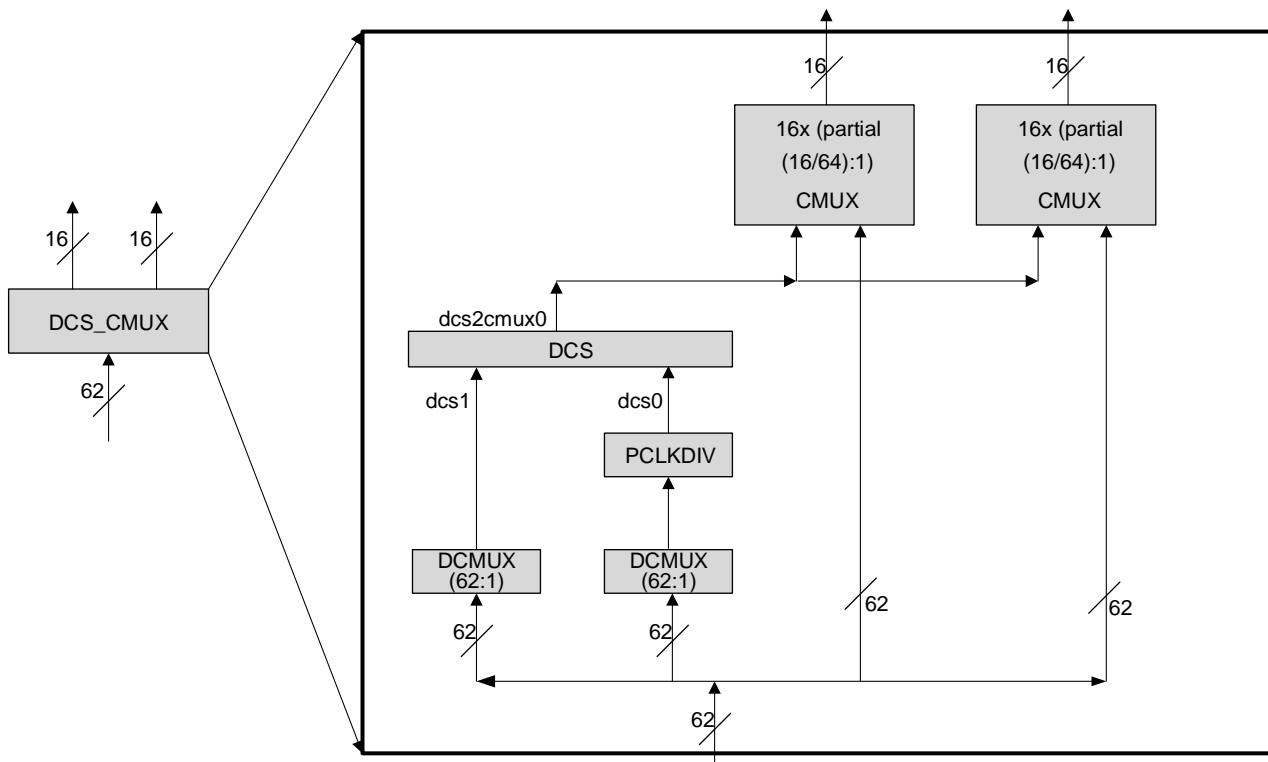

Figure 2.9. DCS_CMUX Diagram
The PCLKDIV supports $\div 2$, $\div 4$, $\div 8$, $\div 16$, $\div 32$, $\div 64$, $\div 128$, and $\div 1$ (bypass) operation. The PCLKDIV is fed from a DCSMUX within the DCS_CMUX block. The clock divider output drives one input of the DCS Dynamic Clock Select within the DCS_CMUX block. The Reset (RST) control signal is asynchronously and forces all outputs to low. The divider output starts at next cycle after the reset is synchronously released. The PCLKDIV is shown in context in Figure 2.9.
All clock sources are selected and combined for primary clock routing through the Dynamic Clock Selector Center Multiplexor logic (DCS_CMUX). There are one (1) or two (2) DCS_CMUX blocks per device. Each DCS_CMUX block contains 2 DCSMUX blocks, 1 PCLKDIV, 1 DCS block, and 1 or 2 CMUX blocks. See Figure 2.9 for a representative DCS_CMUX block diagram.